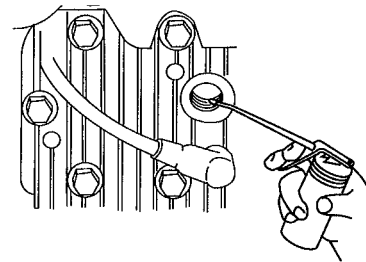

Figure 32
2. Remove spark plug. Using an oil can, squirt about one tablespoon of oil through spark plug hole (Fig. 32).